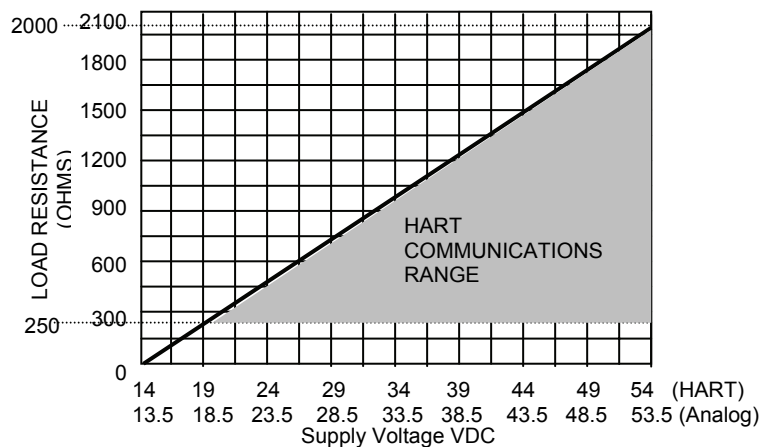

Figure 27 – Supply Voltage Requirements, HART and Analog Versions
Power Requirements Analog HART Versions PROFIBUS PA FOUNDATION Fieldbus (FF)	14.0 to 55 VDC (14.0 to 42 VDC for agency certified applications). See Figure 27 below 14.0 to 55 VDC (14.0 to 42 VDC for agency certified applications). See Figure 27 below 9 to 32 VDC (9 to 24 VDC for agency certified applications) 15 mA quiescent current 9 to 32 VDC (9 to 24 VDC for agency certified applications) 15 mA quiescent current